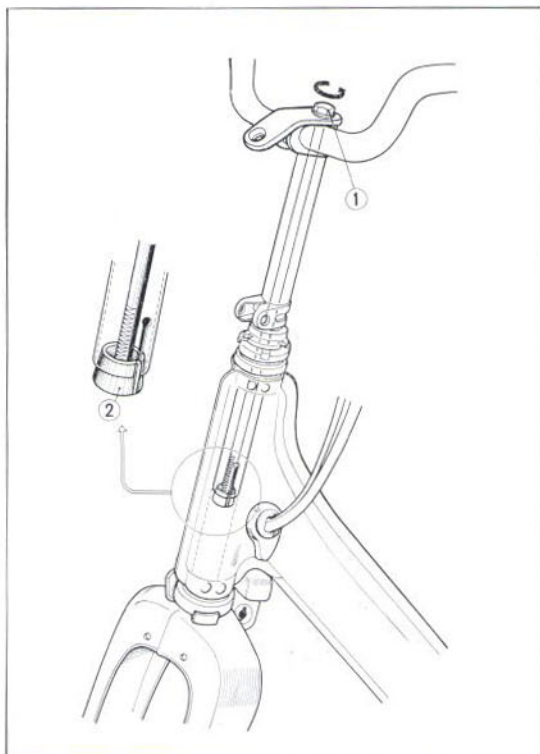

Fig. 4.12 ① Handle set bolt ② Lock nut
4. Loosen handle set bolt and tap lightly to remove the handle. (Fig. 4.12)